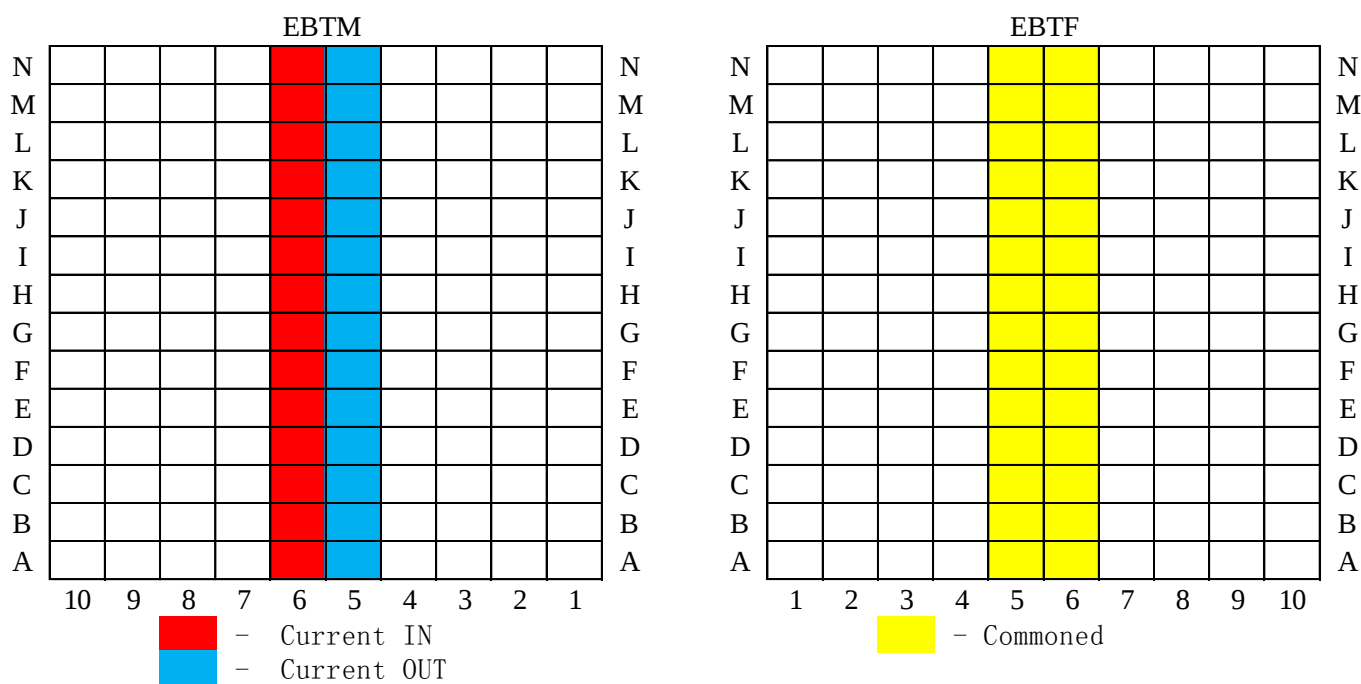

Figure 3
3. 28 Pins powered with center wafer carries supply while adjacent wafer to carry return, please see figure 3.